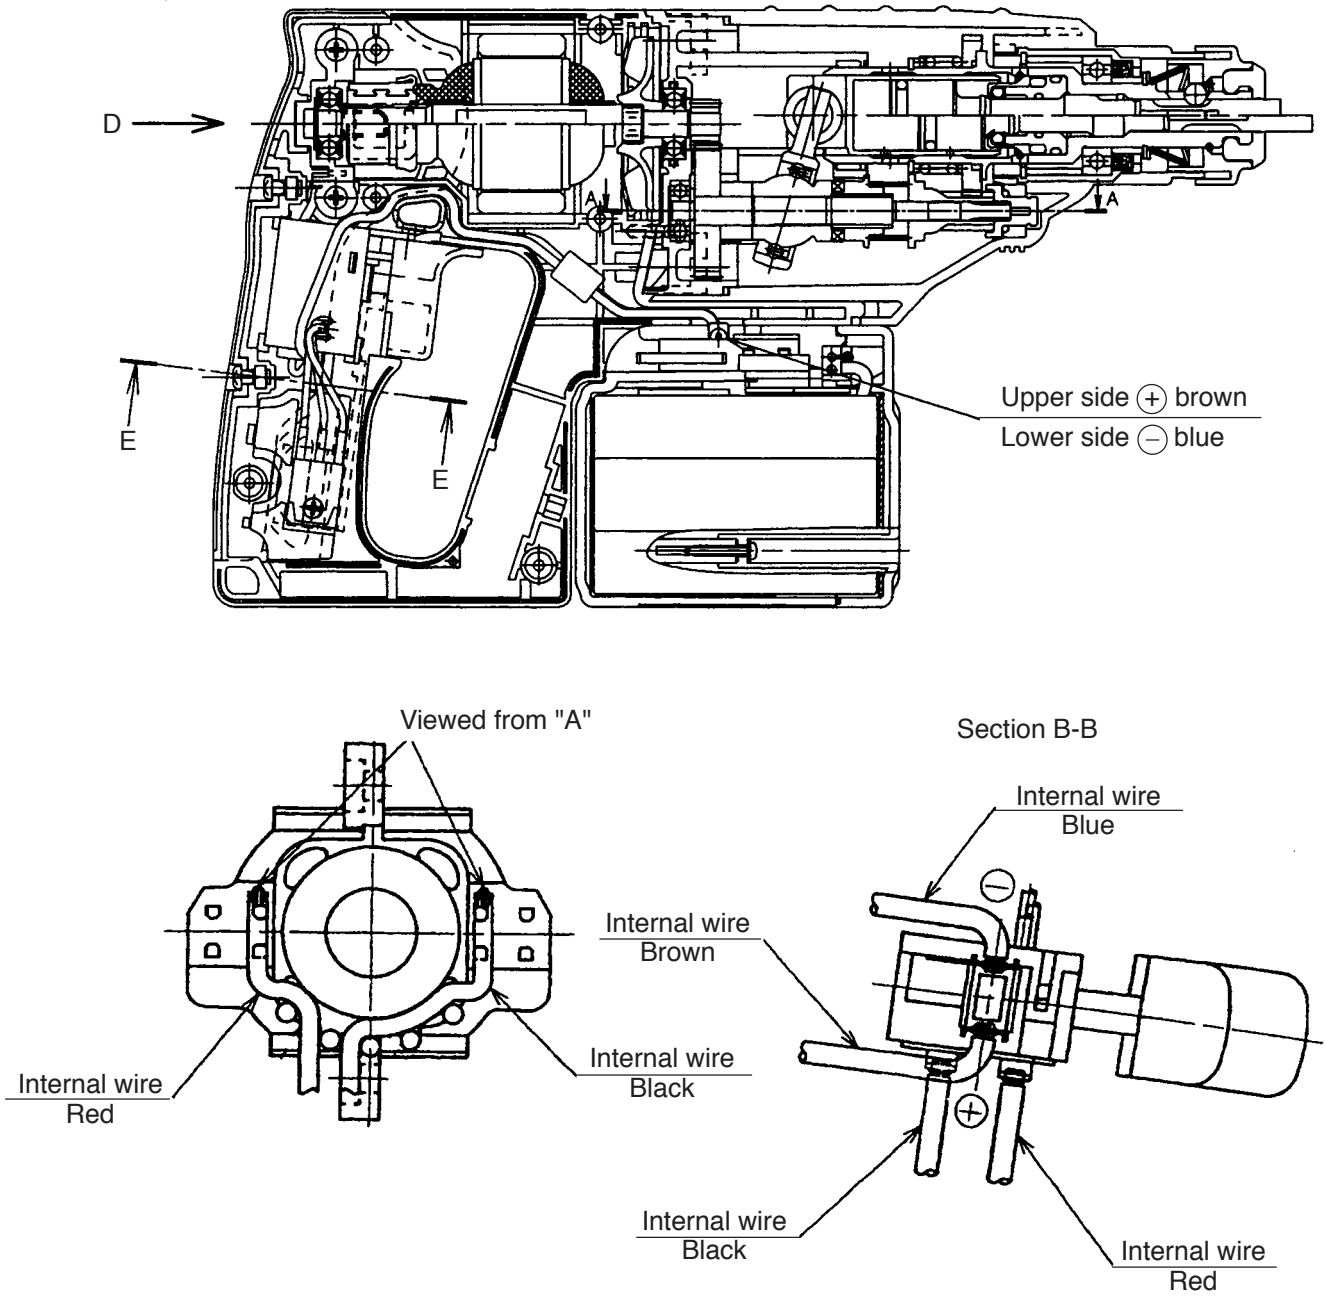

Fig. 27
(8) Perform wiring as shown in Fig. 27.